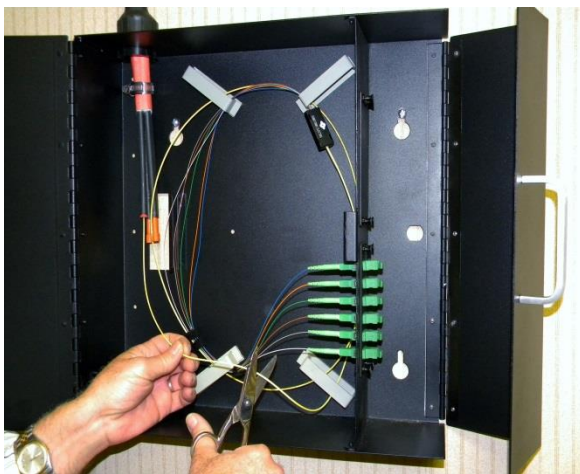

Figure 7
8.4 At both entry and exit point FTUs, cut fiber bundle and remove it and any associated fiber termination hardware. **See Fig. 7.**